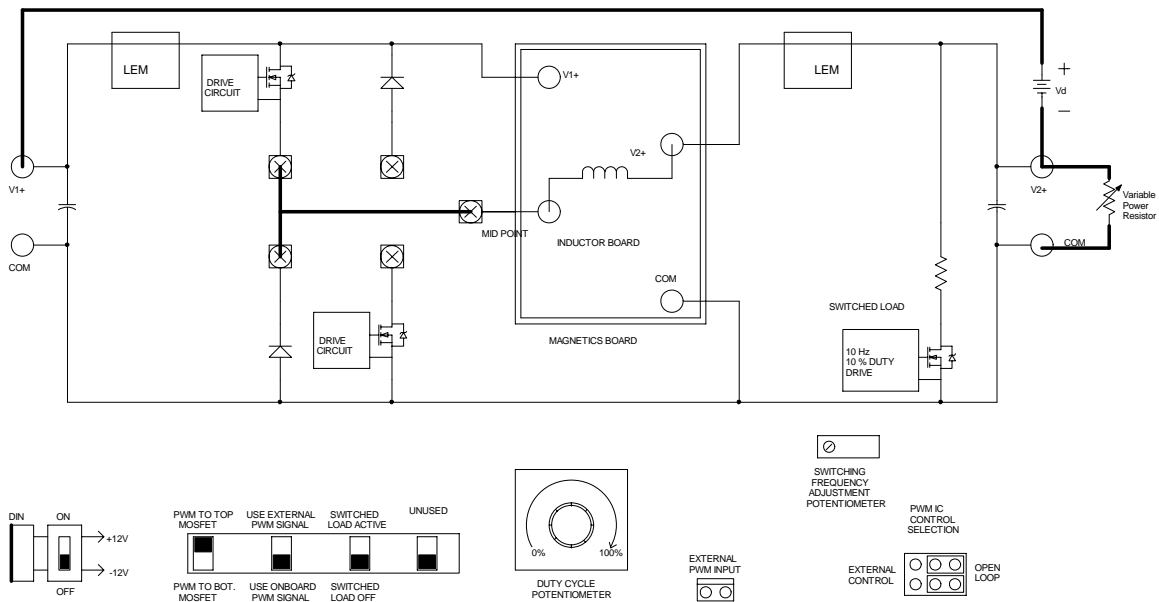

Figure 9.1: Current Mode Controller Schematic
- Reconstruct the buck-boost converter used in Expt. 3 as in Fig. 9.1.
- Change the switch positions of the switch bank as shown in Fig. 9.1.